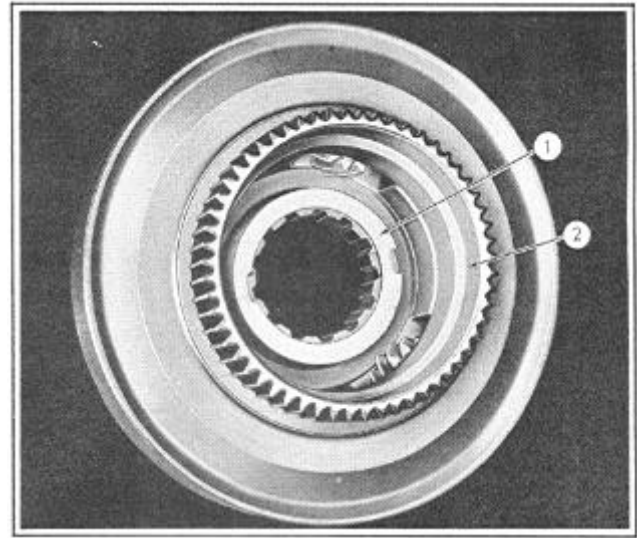

FIGURE 128
39. Coat the front sun gear thrust washer (1), Figure 128, with petroleum jelly and install the washer within the front planetary carrier hub with the steel face of the washer against the machined face of the hub.